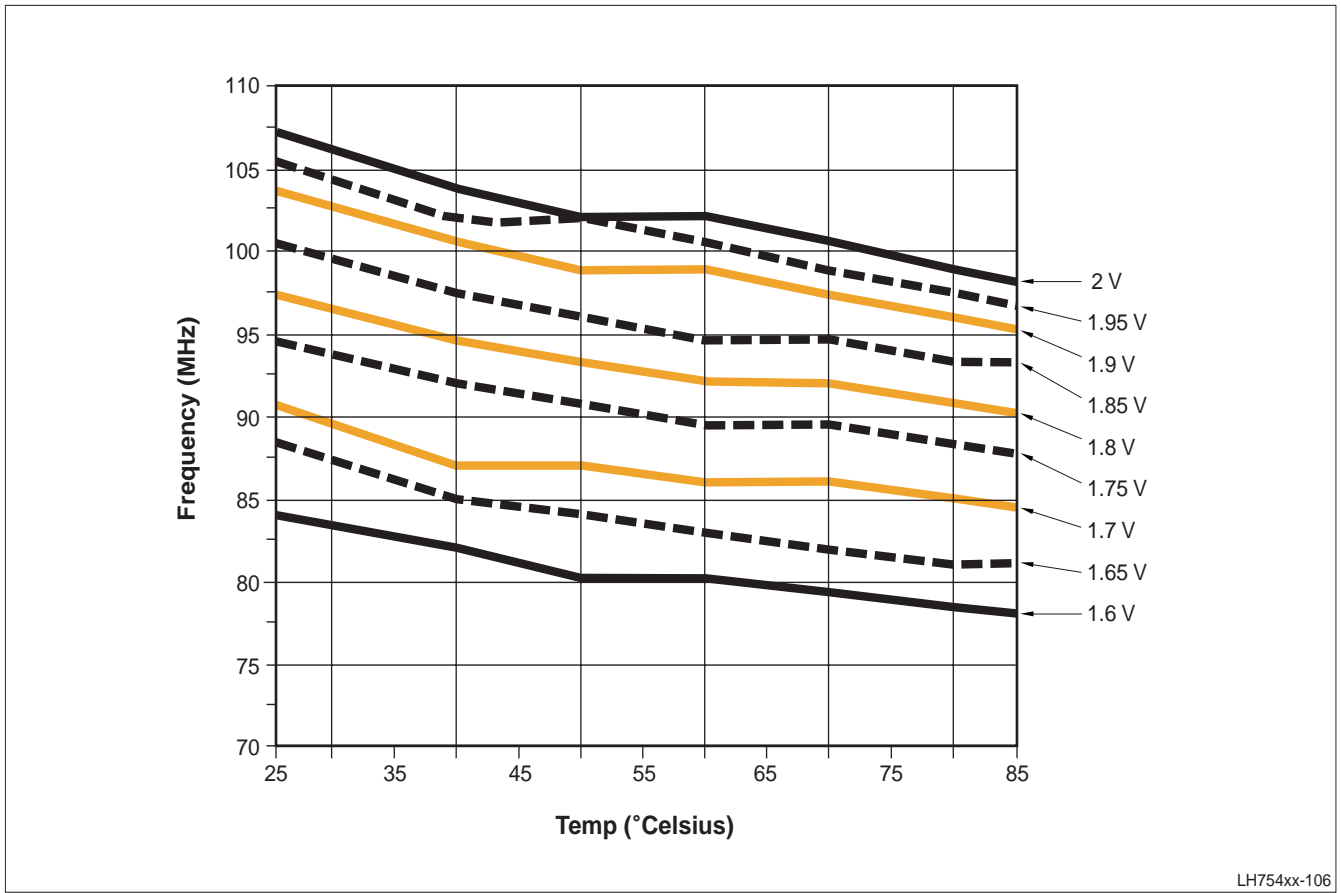

Figure 10. Maximum Core Frequency versus Voltage and Temperature
3. Additional performance may be achieved in accordance with Figure 10.